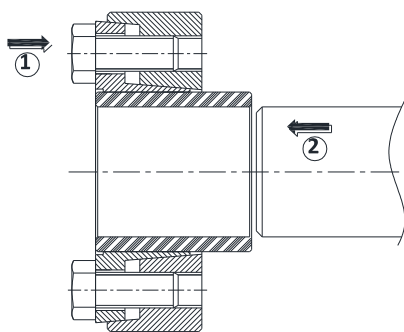

FIG.03
- Push the shrink disc onto the hollow shaft. (as shown in FIG.03)